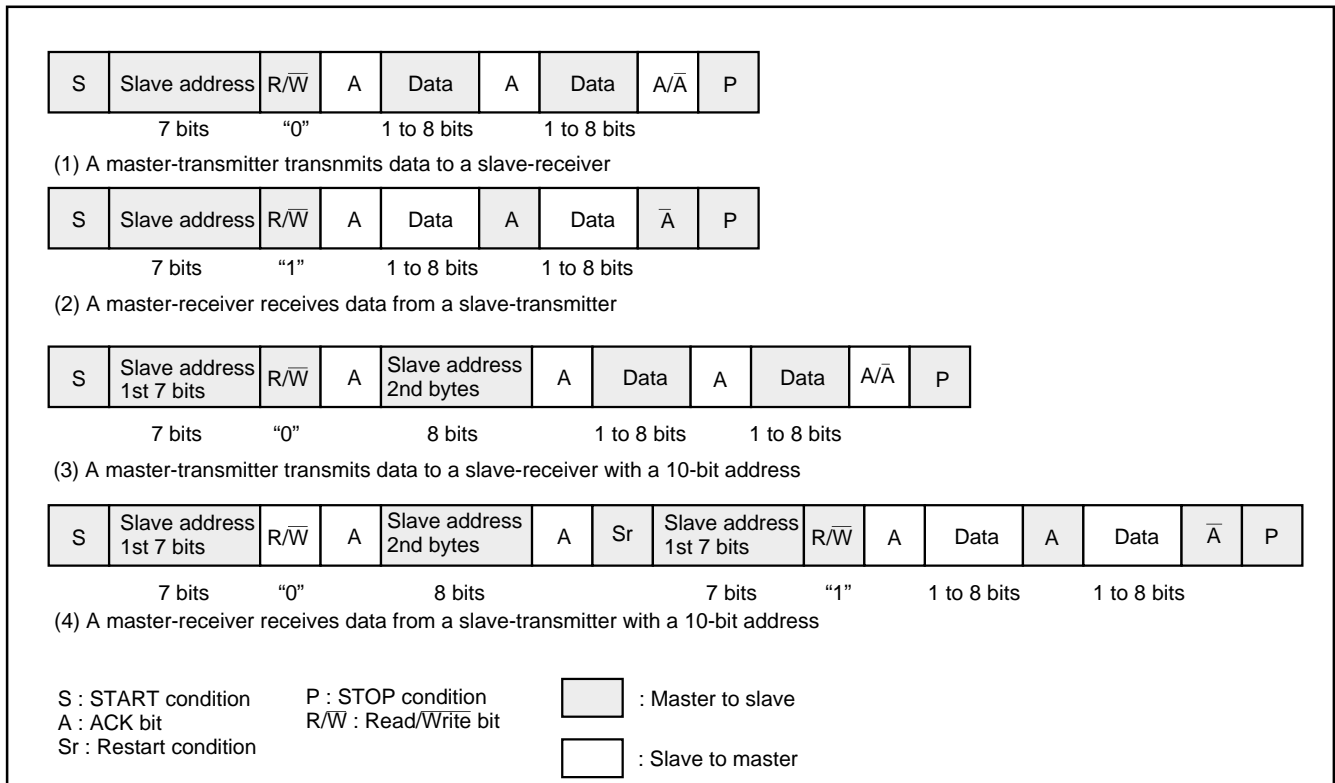

Fig. 36 Address data communication format
To adapt the 7-bit addressing format, set the 10BIT SAD bit of the I2C control register (address 002E16) to “0”. The first 7-bit address data transmitted from the master is compared with the high-order 7-bit slave address stored in the I2C address register (address 002C16). At the time of this comparison, address comparison of the RWB bit of the I2C address register (address 002C16) is not performed. For the data transmission format when the 7-bit addressing format is selected, refer to Figure 36, (1) and (2).
When the first-byte address data agree with the slave address, the AAS bit of the I2C status register (address 002D16) is set to “1”. After the second-byte address data is stored into the I2C data shift register (address 002B16), perform an address comparison between the second-byte data and the slave address by software. When the address data of the 2 bytes agree with the slave address, set the RWB bit of the I2C address register (address 002C16) to “1” by software. This processing can make the 7-bit slave address and R/W data agree, which are received after a RESTART condition is detected, with the value of the I2C address register (address 002C16). For the data transmission format when the 10-bit addressing format is selected, refer to Figure 36, (3) and (4).